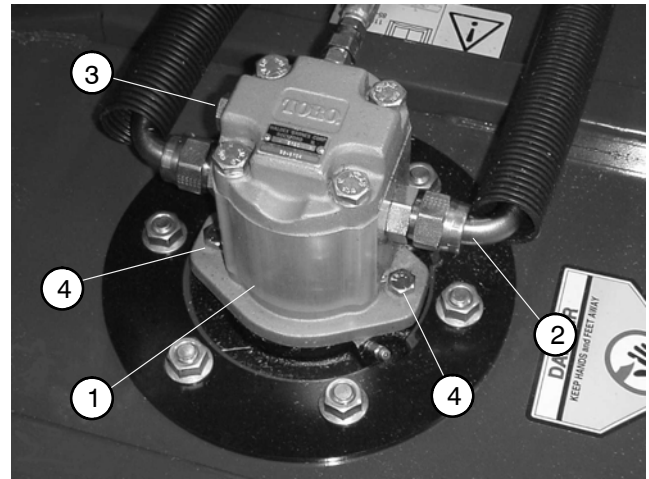

Figure 85
Note: Note position of hydraulic hoses when removing from the rotary motors. Proper positioning is critical when reconnecting hydraulic hoses. The inlet to the motor is opposite from the relief valve (Fig. 85).
1. Remove two cap screws that secure hydraulic motor to the cutting unit (Fig. 85). Remove hydraulic motor from deck and O-ring from top of spindle housing.